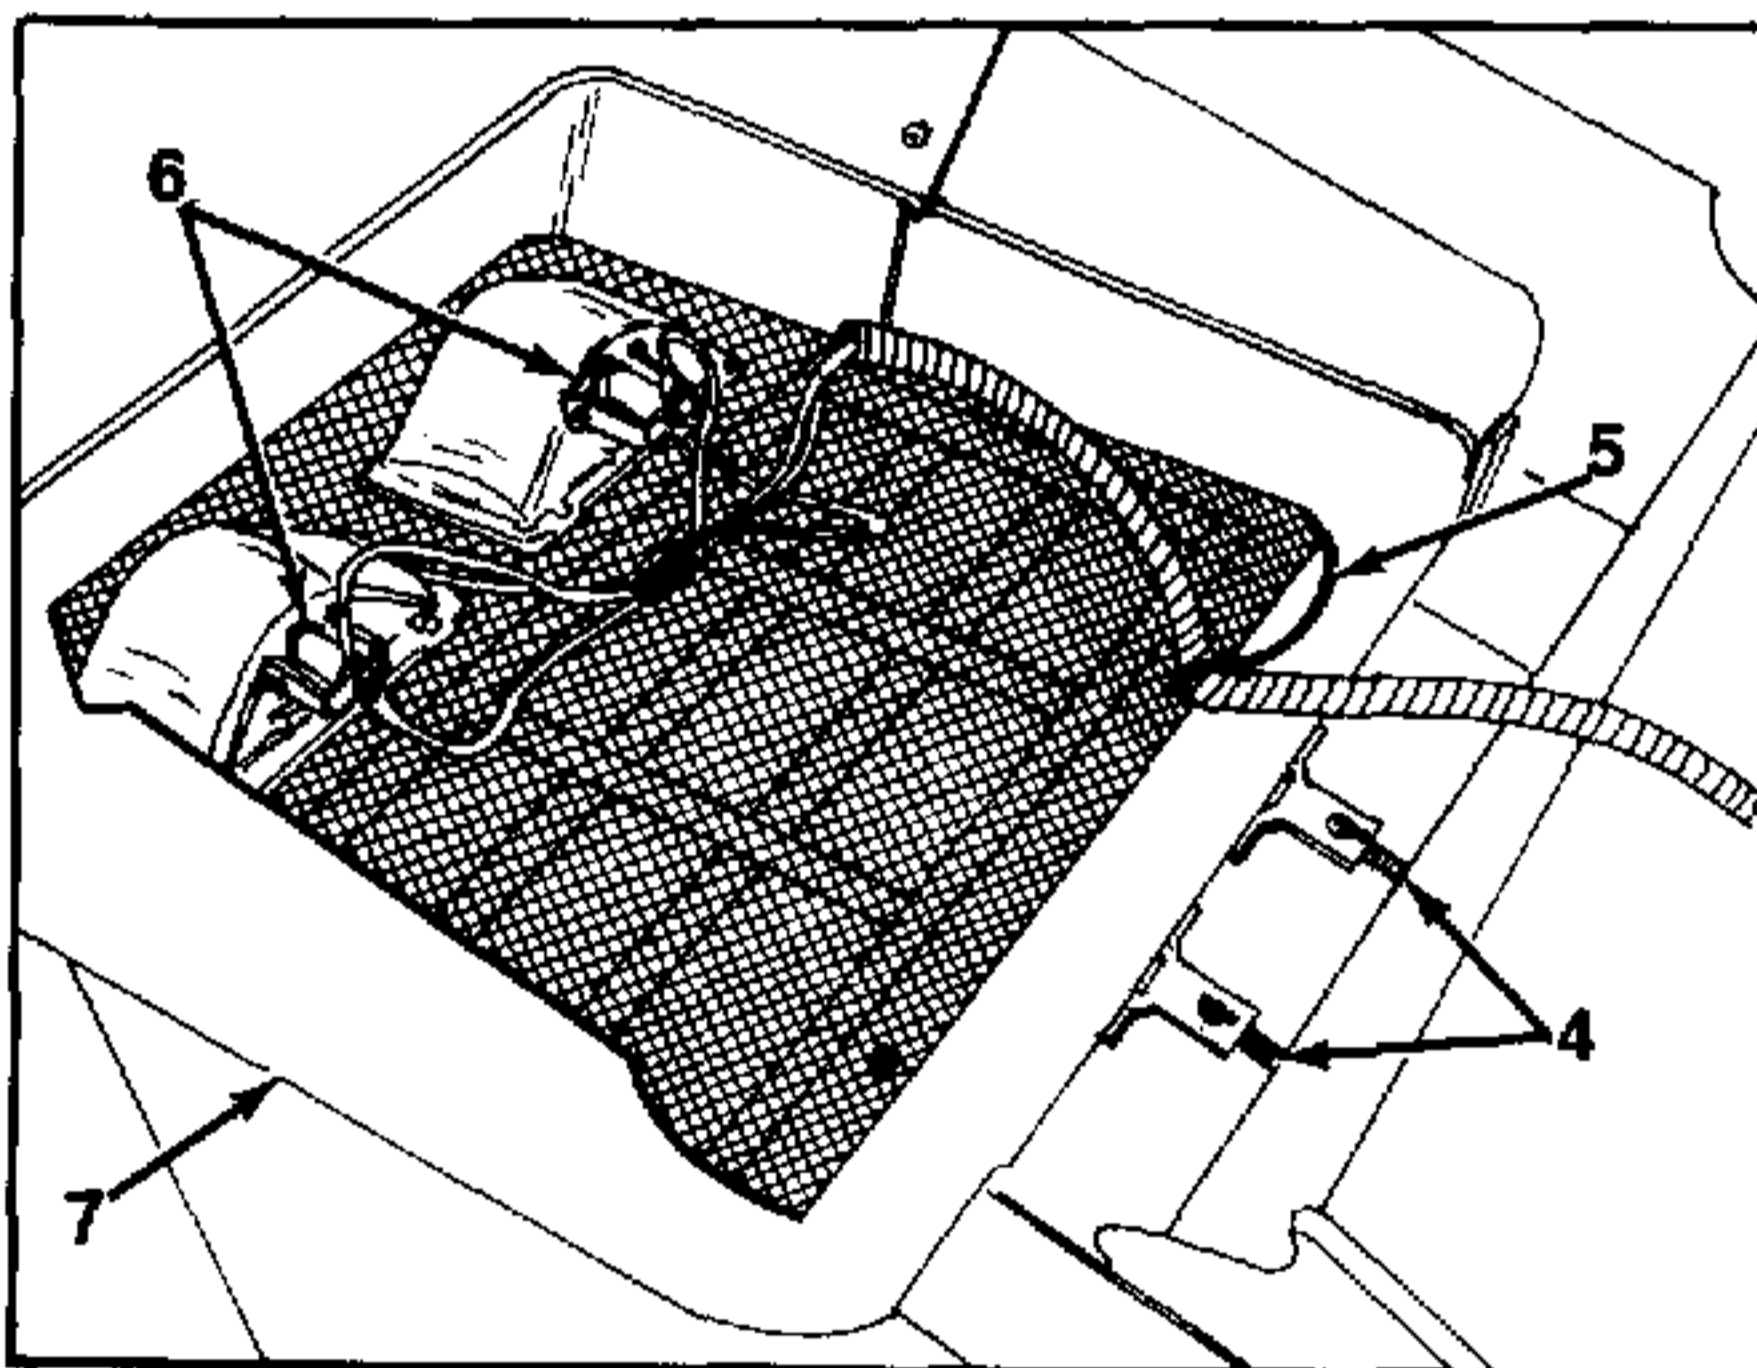

FIGURE 2.
4. Remove the hood and grille by removing the two extension springs from the grille and chassis. See figure 2.
5. Unplug the headlight terminals and cut the cable tie, holding the headlight wire harness to grille. See figure 2.